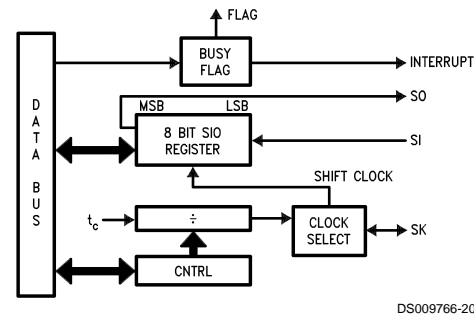

FIGURE 13. MICROWIRE/PLUS Block Diagram
ers, E²PROMs etc.) and with other microcontrollers which support the MICROWIRE interface. It consists of an 8-bit serial shift register (SIO) with serial data input (SI), serial data output (SO) and serial shift clock (SK). Figure 13 shows a block diagram of the MICROWIRE logic.